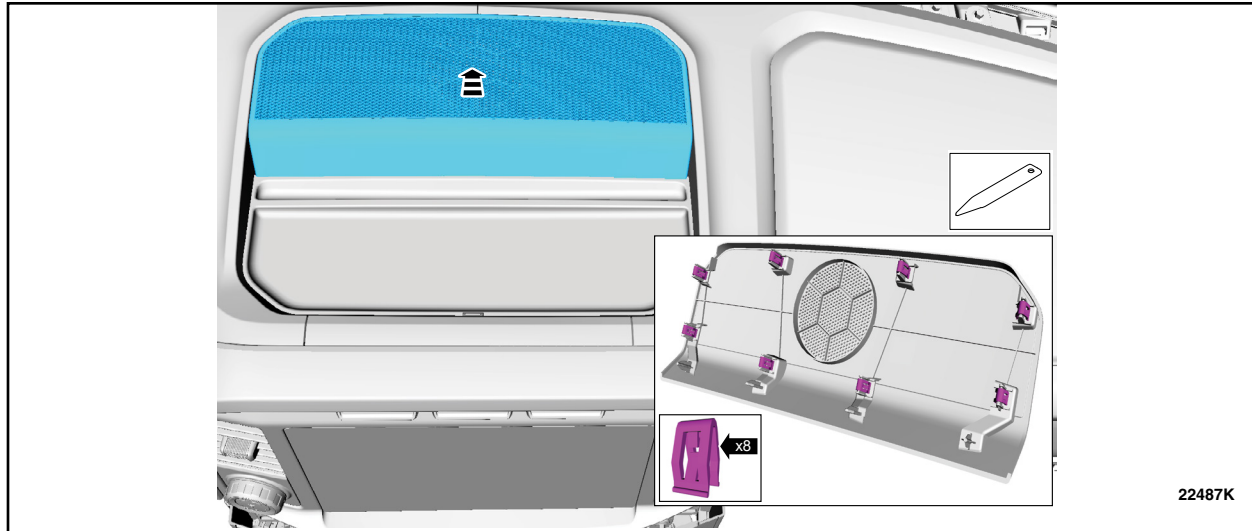

FIGURE 10
12. Release the clips and remove the speaker grille. See Figure 10